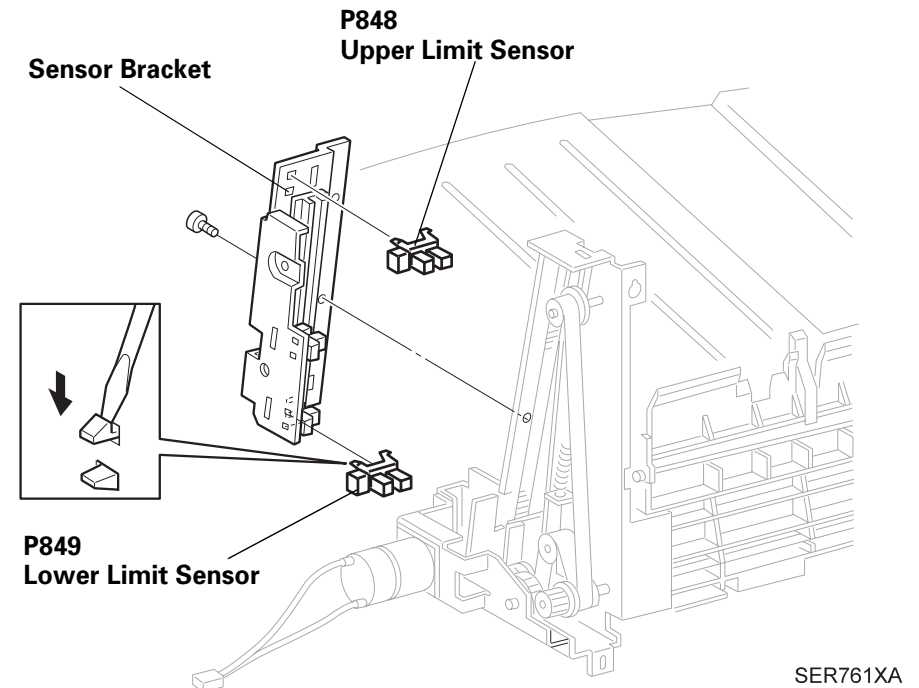

Figure 3-35. Middle Tray Lower and Upper Limit Sensor
1. Place the Lower Limit Sensor as shown in the Figure 3-35 and insert it with latches ahead into the cutouts of the Sensor Bracket and set the latches on.
3. Place the Upper Limit Sensor as shown in the Figure 3-35 and insert it with latches ahead into the cutouts of the Sensor Bracket and set the latches on.